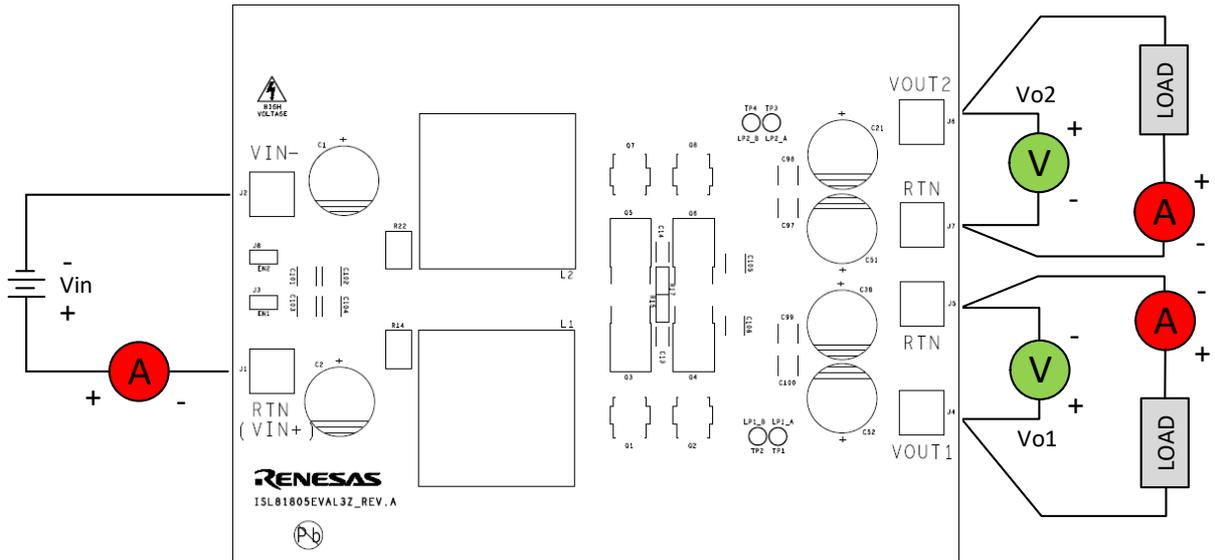

Figure 3. Proper Test Setup
As shown in Figure 3, -36V to -60V V_{IN} is supplied to J1 (+) and J2 (-). The regulated 12V output is on J4 (+) and J5 (-), while the regulated 5V output is on J6 (+) and J7 (-). Because of the high-power efficiency, the evaluation board can run at 40A in total continuously without airflow at ambient room temperature conditions.
1. See Table 2 for the operating options. Ensure that the circuit is correctly connected to the supply and electronic loads before applying any power. See Figure 3 for the proper setup.